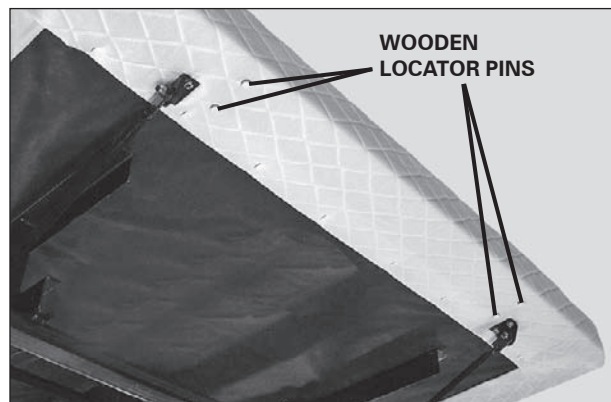

FIGURE 9: Wooden locator pins mark position of the threaded lugs.
- c. With the bed base oriented top-side-up, lay under the foot end of the bed and locate (4) threaded lug locator pins (**FIGURE 9**).